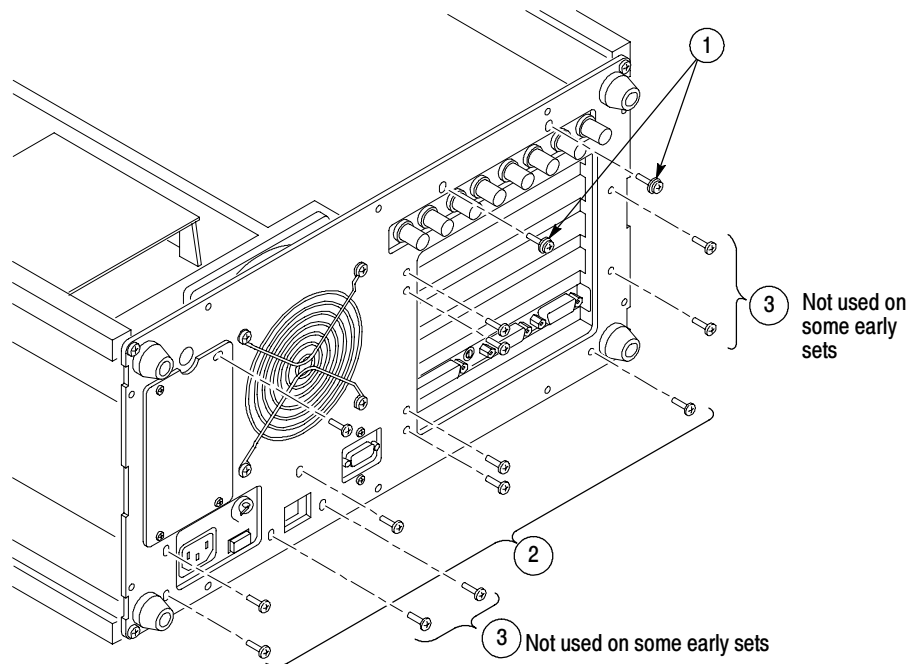

Figure 11: Rear panel screw removal (VM700A with VMTB/VMTX)
2. Remove the screws as shown in Figure 11.